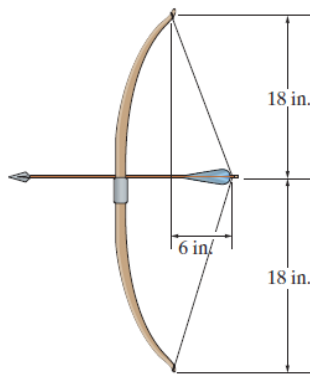

Fig. 3
- If the unstretched length of the bowstring is 35.5 in., determine the average normal strain in the string when it is stretched to the position shown in Fig. 3. [ $\epsilon_{avg} = 0.0689\text{in/in}$ ]